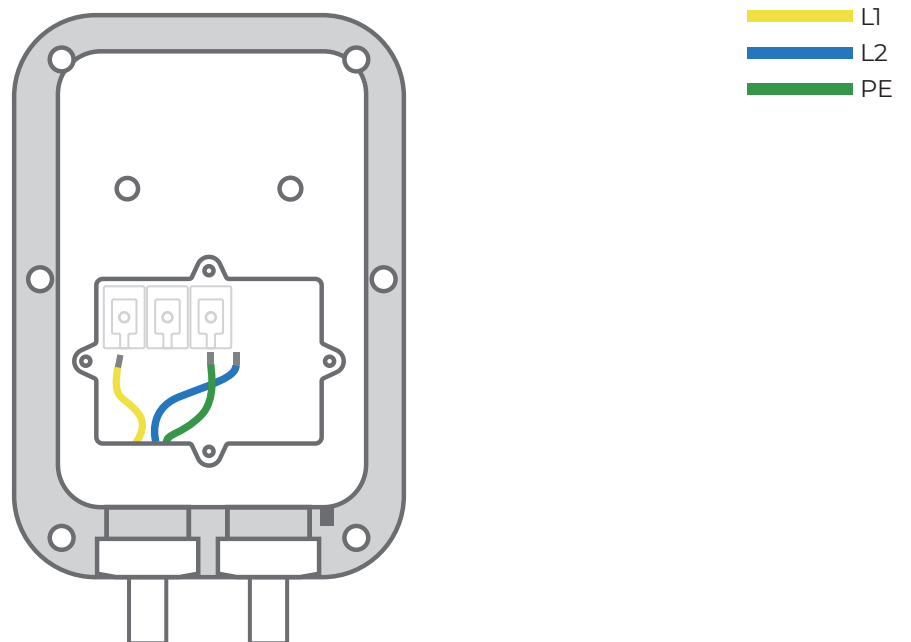

Fig. 5.6.4
4. Take out the cable wire, and remove the magnet ring. (See Fig. 5.6.4)